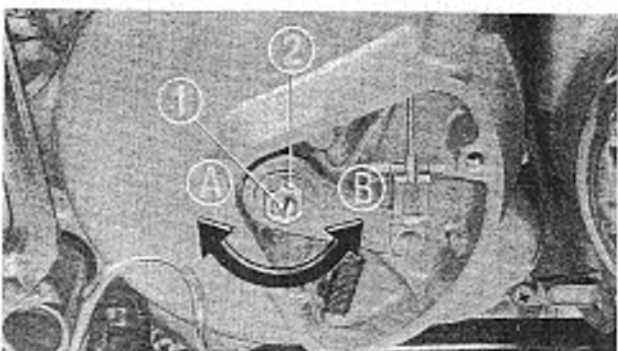

Fig. 2-2 ① Clutch adjusting screw
2. Screw the clutch cable adjuster located at the clutch lever, all the way into (A) the clutch lever bracket.
3. Turn the clutch cable adjuster located at the clutch housing, in the direction (A) to loosen the clutch cable.
4. Remove the clutch cover. Loosen the clutch lifter adjusting screw lock nut (see Fig. 2-2), turn the clutch adjusting screw in the clockwise direction (A) until a slight resistance is felt. From this position, turn the adjusting screw in the counterclockwise direction (B) $1/4 \sim 1/2$ turn. Tighten the lock nut.
5. Turn the clutch cable adjuster located at the clutch housing side of engine, in the (A) direction so that there is approximately $3/4$ " of free play at the end of the clutch lever, then tighten lock nut.